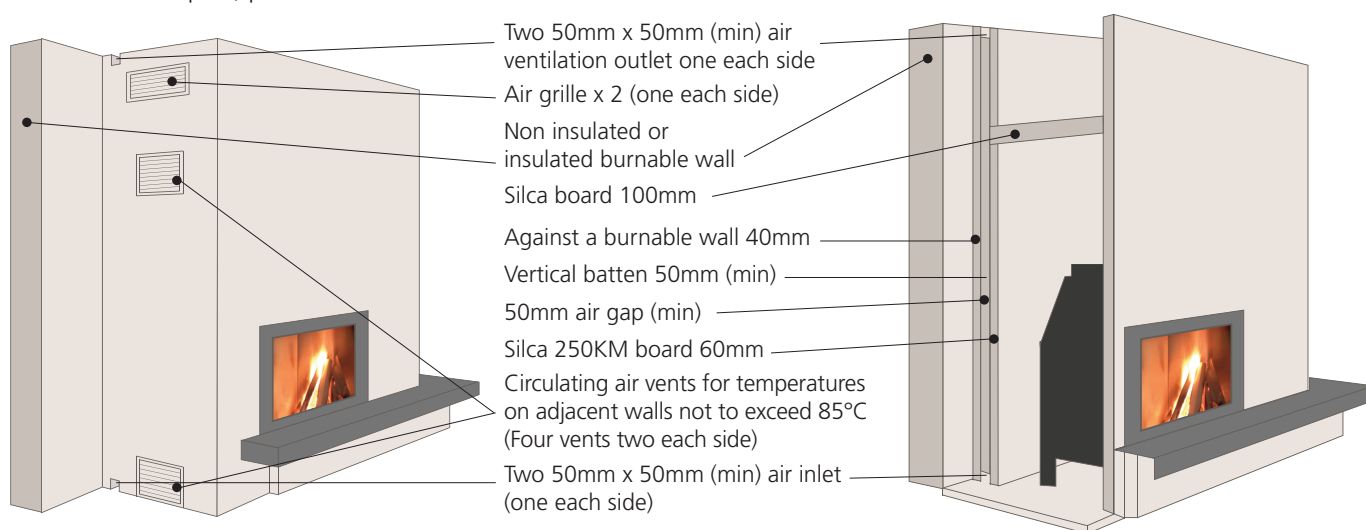

Fig 2. SILCA 250 KM insulation board built against a non-insulated or insulated burnable wall
- » The airflow between the two boards is introduced at the lowest point and is expelled at the most upper point on both sides (see Fig 2). A minimum of 50mm x 50mm is required for each airway.